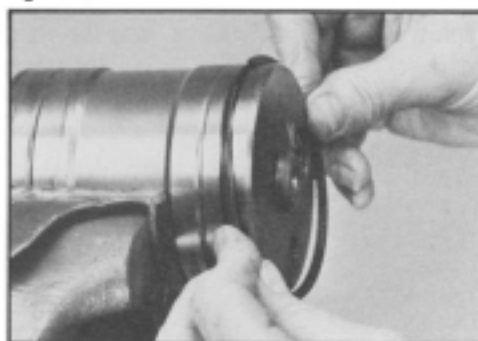

Figure 124
22. Place rack piston (39) in a soft jawed vise in a horizontal position. Carefully expand piston ring (39A) over end of rack piston and install in the ring groove. SEE FIGURE 124.